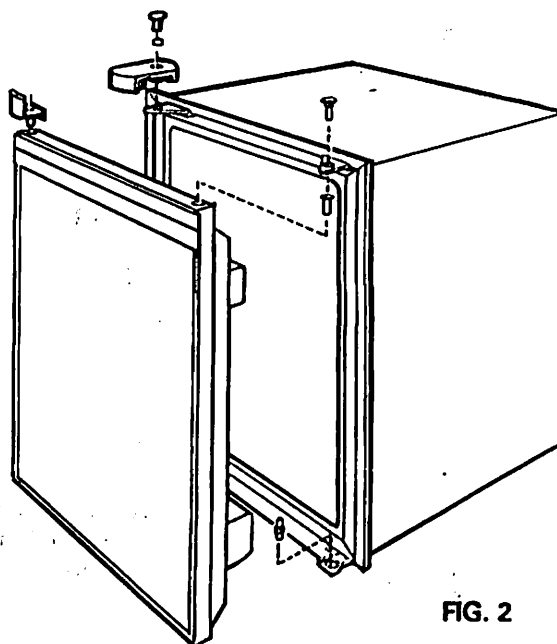

FIG. 2
- Unscrew and remove the upper hinge pin, open the door and lift it from the lower hinge pin. Transfer lower hinge pin to the opposite side of foot plate. Remove travel catch from *left-hand* side of cabinet. (FIG. 2)
Pull out the plastic stop for the travel catch from the top *left-hand* corner and the hinge pin bushing from the top right and fit in the reverse order. (FIG. 2)